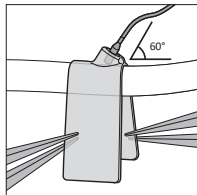

Figure 4
1. Position the silicone strap around the target vessel, ensuring both ends of the strap are parallel to one another (See Figure 4). Note the probe is positioned at a 60° angle. For optimal wire removal, align the probe and wire with exit.